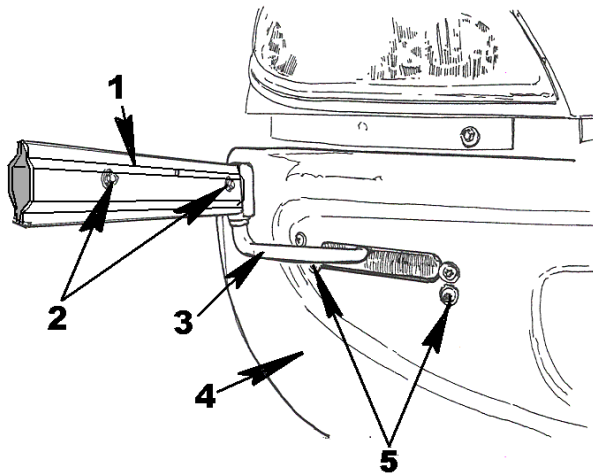

Figure 86 Safety Gate Assembly
2. Open the safety gate and locate the gate mounting nuts and bolts on the gate drive arm (Figure 86, Item 2). Remove the safety gate arm.